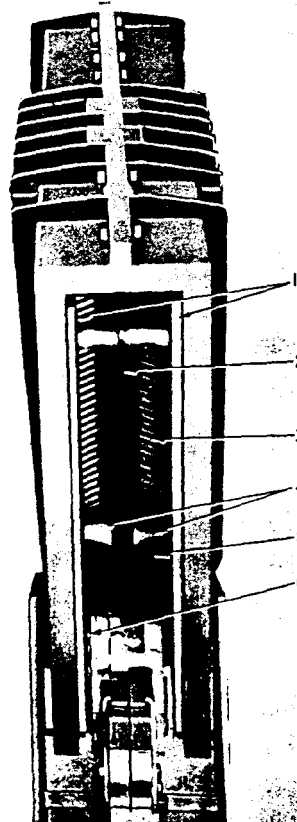

Fig. 3—View Showing Interior of Arc Chute
3. Arc Chute Examination (See Fig. 3)
(See Fig. 3)